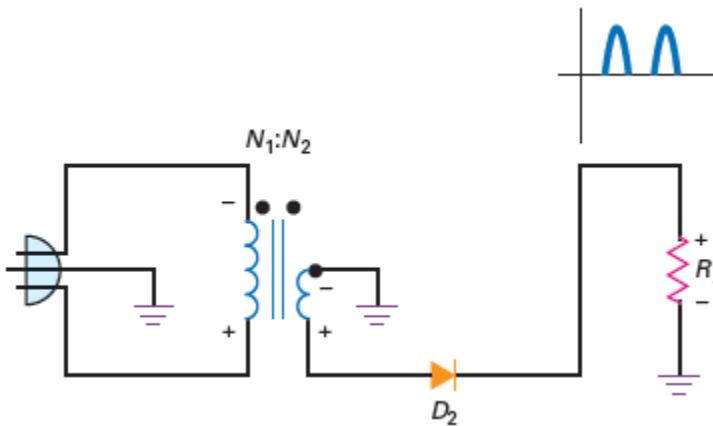

Figure-42 Equivalent circuit for negative half-cycle
- Figure-42 shows the equivalent circuit for the negative half-cycle. This time, D_2 is forward biased. As you can see, this also produces a positive load voltage.